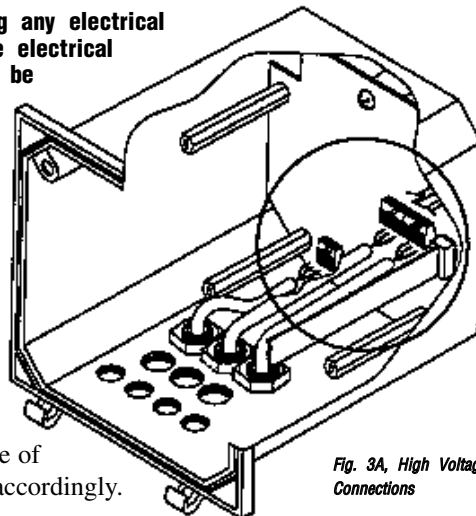
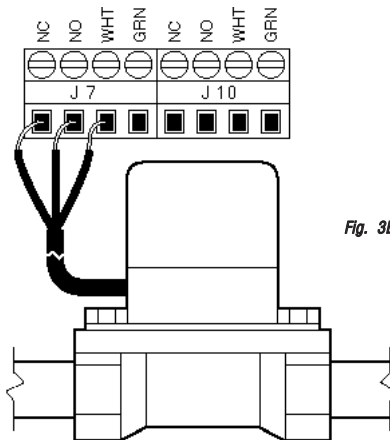

Fig. 3A, High Voltage Connections
Fig. 3B
Please refer to Fig. 3A High Voltage Connections (also, see Fig. 3B). Units must be wired by the customer in accordance with all applicable electrical codes (i.e., NEC). When maximally loaded, the unit will draw 10.5 Amps. Each relay is capable of supplying 5 Amps. Size wiring accordingly.
Figure 3B at right illustrates how an actuated (motorized) ball valve, which is used for “blow down”, is connected to the ABC Controller. It employs a normally open (NO), a normally closed (NC), and common (or neutral) connections. In this example, the first device is connected at JP5. Location is behind control panel (see Fig. 3A).